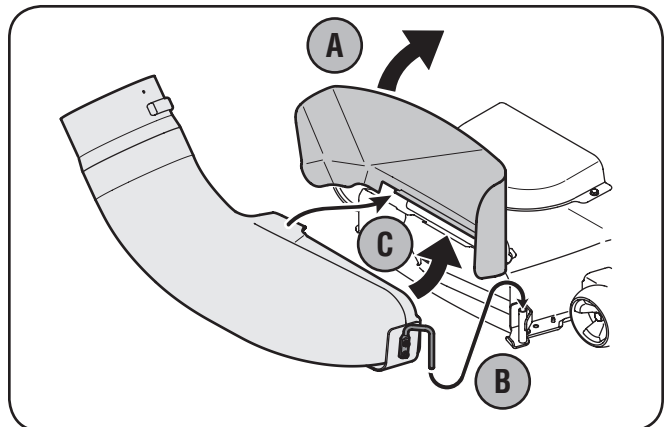

Figure 4-22
3. Raise the chute deflector (A in Figure 4-22) on the deck and hold it while you position the discharge chute over the chute opening.
4. Insert the hinge pin of the discharge chute into the tube on the chute stop bracket. See B in Figure 4-22.
5. Rotate the chute around the deck so that its front edge fits snugly into the deck opening. Lower the chute deflector slowly (C in Figure 4-22).